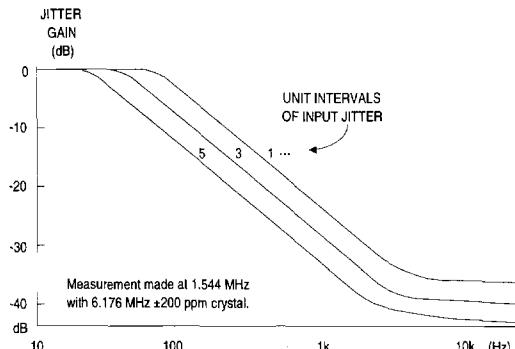
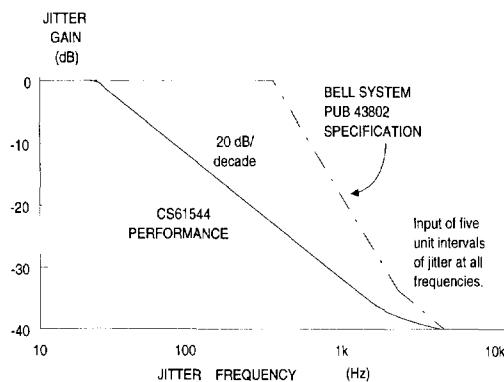

Figure 5 - CS61544 Jitter Attenuation Curves
Figure 6 - Jitter Attenuation Characteristics
8. Crystal pull range: ± 200 ppm. Five unit intervals of input jitter. Slope above corner frequency is -20dB/decade. See Figure 5.
The 61544 will tolerate and attenuate at least seven unit intervals of jitter (peak-to-peak) from a T1 signal. Figure 5 shows a family of curves which show the jitter attenuation achieved by the 61544. Each curve shows the jitter attenuation for a signal with constant jitter amplitude over a range of jitter frequencies. The more jitter a signal has, the more the jitter is attenuated. The jitter attenuator on the transmitter side meets the jitter attenuation and input tolerance specifications of AT&T Publication 43802, as shown in Figures 6 and 7.